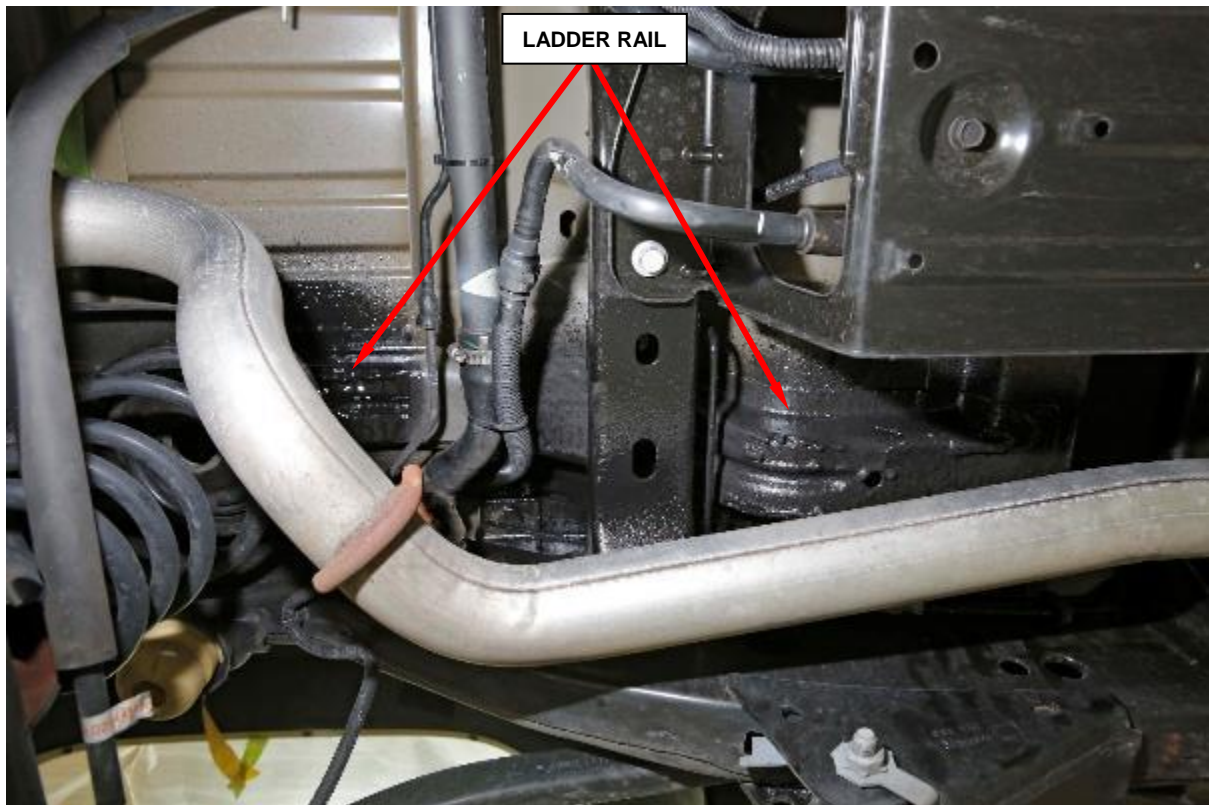

Figure 11 – Left Side Rear Longitudinal Under Body Ladder Rail with Epoxy Coating
6. Inspect the left side rear longitudinal under body ladder rail to ensure that all accessible surfaces have been completely coated with the epoxy coating (Figure 11).